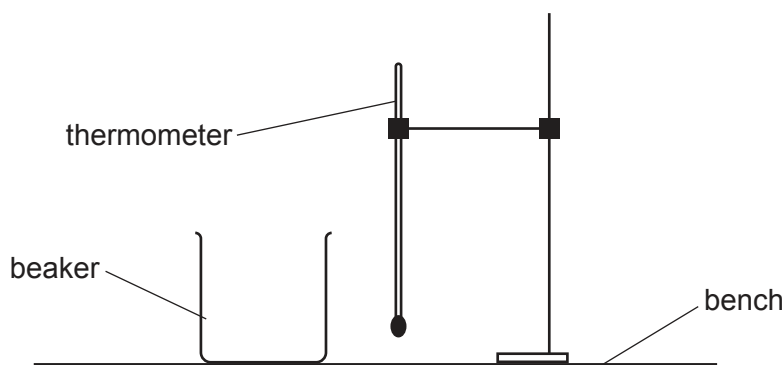

Fig. 3.1
2. The apparatus must be set up for the candidates as shown in Fig. 3.1.